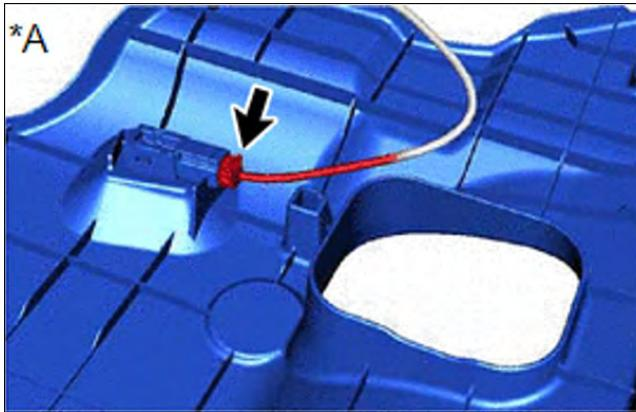

Figure 66
- (a) With illumination, connect the connector, as shown in Figure 66.